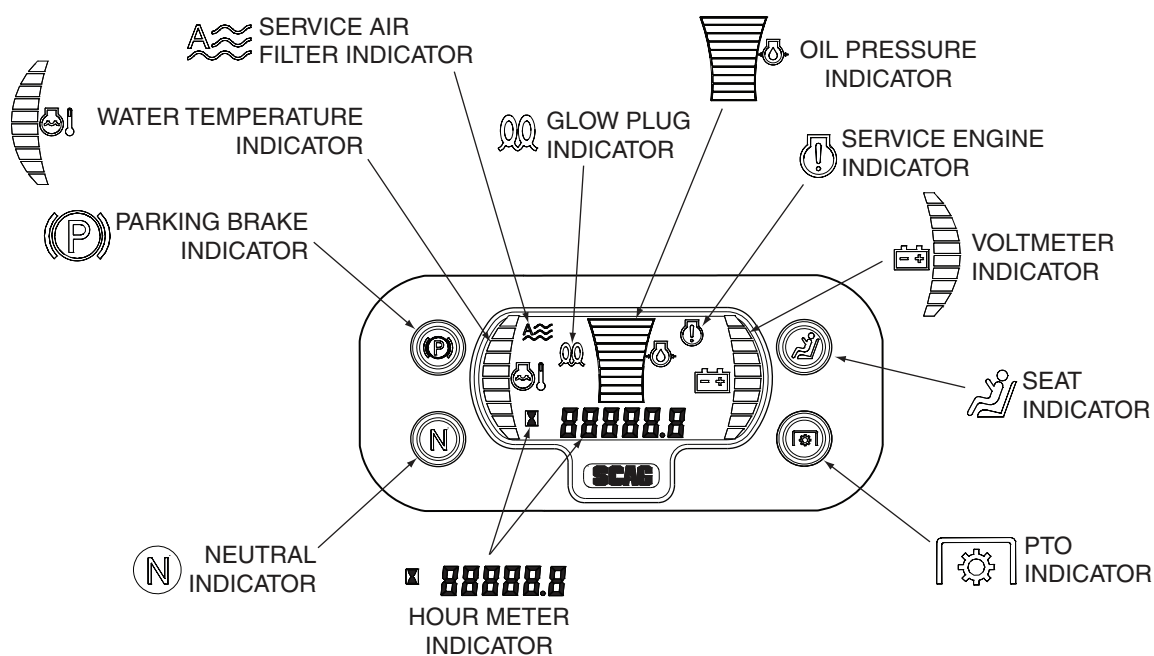

Figure 4-1. Tiger Eye Advanced Monitoring System
1. **Service Air Filter Indicator (Figure 4-1). Optional Accessory.** Indicates the condition of the engine air filter. Icon will display when it is time to change the air filter.
2. **Glow Plug Indicator (Figure 4-1). Used on Diesel Powered Units Only.** Indicator turns on when the key switch is turned to the ON position. Glow plug timer will cycle on for approximately 5 seconds as glow plugs preheat. At the end of the cycle, the indicator will turn off. Glow plugs must be preheated before starting the engine.
3. **Oil Pressure Indicator (Figure 4-1). Used on Diesel Powered Units Only.** Indicates engine oil pressure. Reference the engine operator's manual for further information.
4. **Service Engine Indicator (Figure 4-1).** Indicates the maintenance reminder for the engine oil change. Has preset maintenance reminder and will start flashing scheduled maintenance 2 hours before preset time and continue flashing until 2 hours after. Automatically resets.
5. **Voltmeter Indicator (Figure 4-1).** Indicates the condition of the charging system. When the engine is running, in normal operating conditions, the bar graph should be in the 12 to 14 volt range.
6. **Seat Indicator (Figure 4-1).** Light will illuminate when the operator is in the seat engaging the seat switch.
7. **PTO Indicator (Figure 4-1).** Light will illuminate when the PTO (mower deck) switch is in the OFF position.
8. **Hourmeter Indicator (Figure 4-1).** Indicates the number of hours the engine has been operated. It only operates when the engine is running. Will start flashing with the Service Engine Indicator at scheduled maintenance 2 hours before preset time and continue flashing until 2 hours after. Automatically resets.
9. **Neutral Indicator (Figure 4-1).** Light will illuminate when the steering control levers are in the neutral lock position.
10. **Park Brake Indicator (Figure 4-1).** Light will illuminate when the park brake is in the engaged (ON) position.
11. **Water Temperature Indicator (Figure 4-1). Used on Liquid Cooled Models Only.** Indicates the operating temperature of the engine. If the engine temperature exceeds the maximum preset value, the indicator will flash and the Park Brake, PTO, Seat and Neutral indicator lights will flash in an alternating pattern.